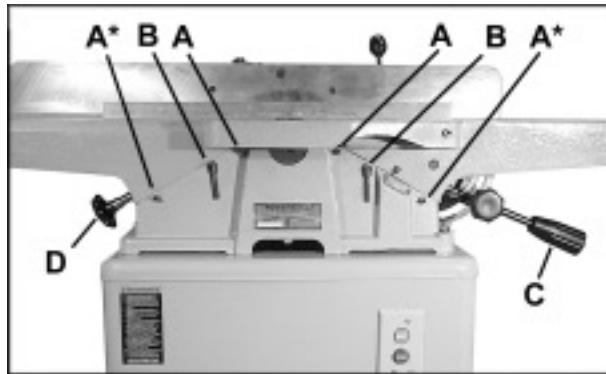

FIGURE 8
1. Loosen lock nuts on the gib screws (A), then loosen the gib screws, and the table lock handle (B). See Figure 8.
4. Carefully tighten the table lock screw (B) as shown in Figure 8. The table will begin to move toward the straightedge.
5. When aligned, reset the gib screws (A) until tight. If table does not align with straightedge, use the adjusting arm (C) for the infeed table, or handwheel (D) for the outfeed table, until the table is flush with the straightedge.
6. Tighten the gib screws (A) then back off approximately 1/4 turn or until the table moves freely, and reset lock nuts on the gib screws.